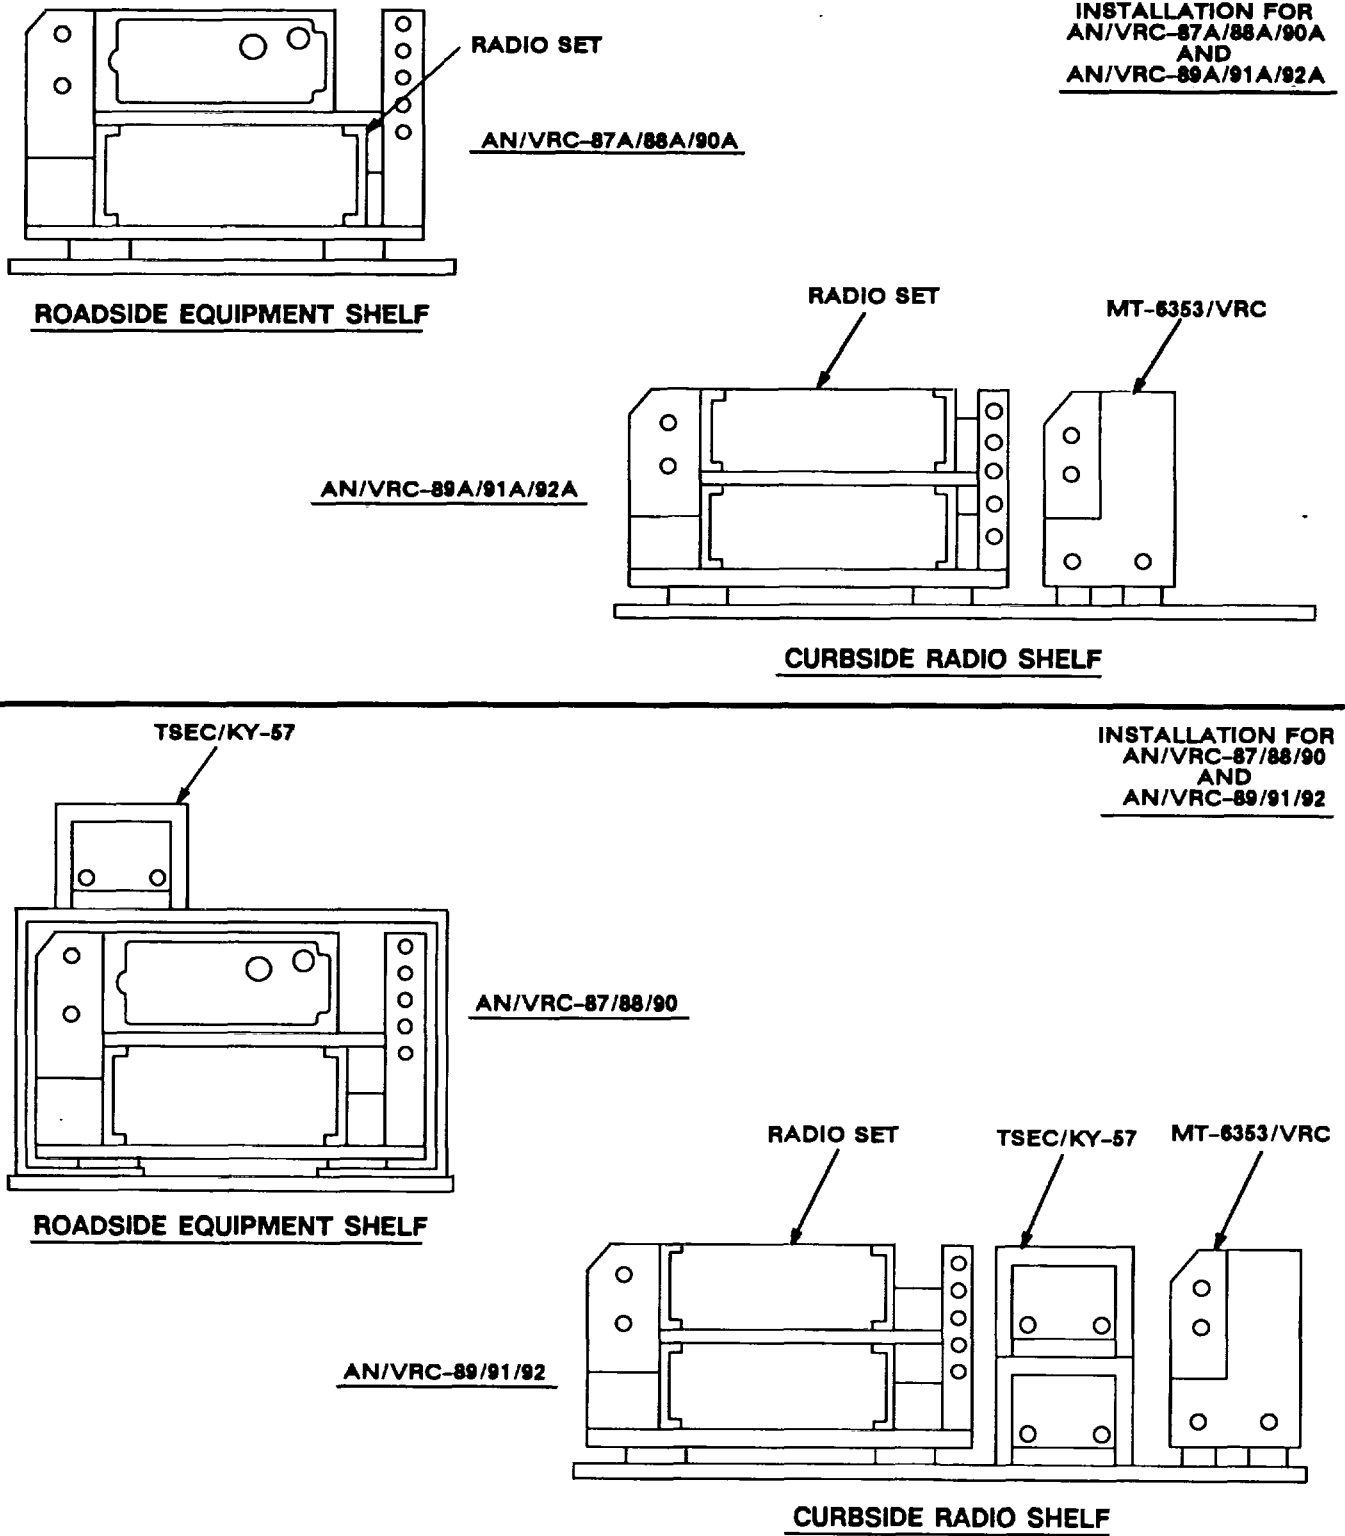

Figure 5-1(2). MK and Radio Installation: Radio Equipment Locations
5.1 Installation of Antenna AS-3900/VRC (antenna). Use the following procedure to install rear and forward antenna(s). See figure 5-1 (1) for locations.